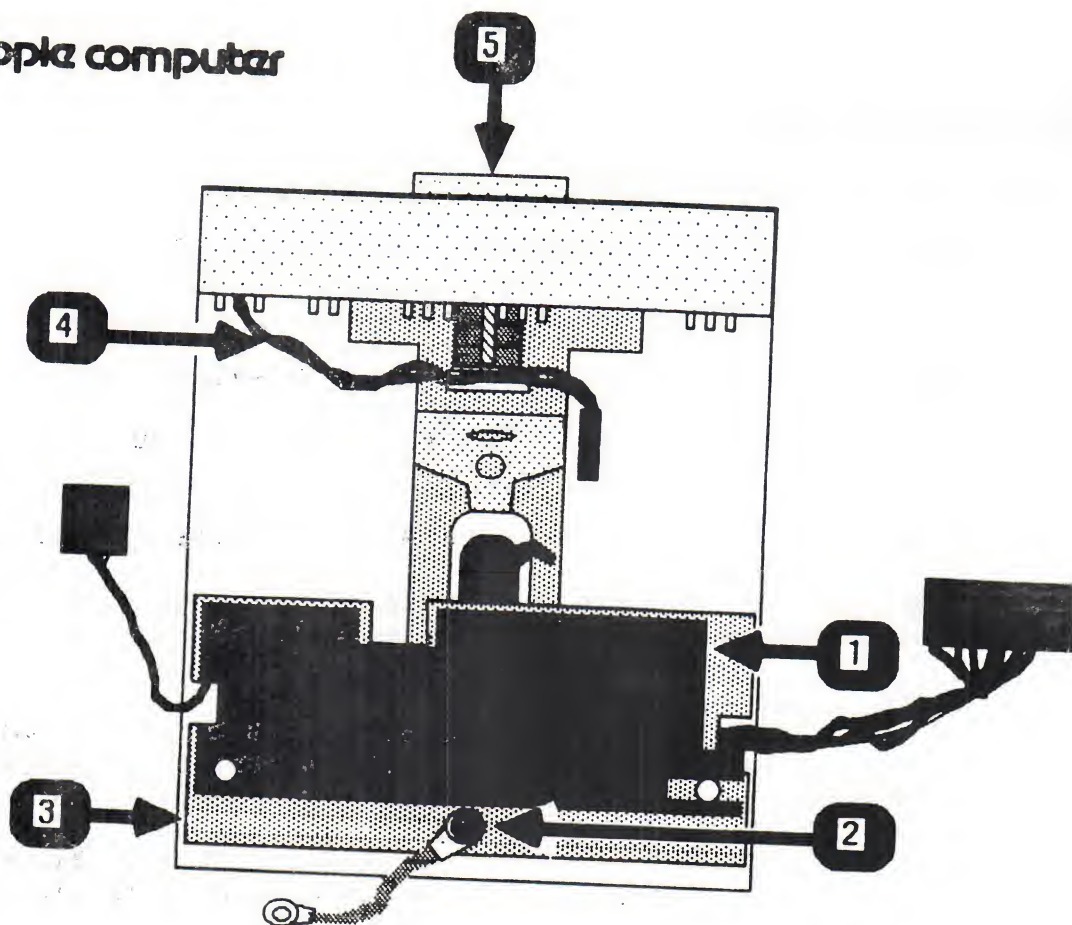
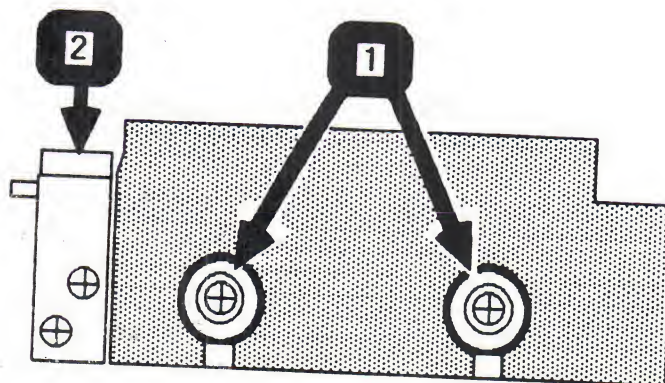

FIGURE 8
FIGURE 9
4. Remove the the black insulation paper (Figure 8, #1).
5. Remove the Phillips screw (Figure 8, #2) which secures the ground strap to the chassis. Set the ground strap aside.
6. Lift the off metal shield (Figure 8, #3) and set it aside.
7. Grasp the LED wires (Figure 8, #4) as close to the front bezel as possible and pull the LED lamp out of the front bezel.
9. Orient the drive as it is shown in Figure 9. Remove the two Phillips screws (Figure 9, #1) on each side of the drive.
10. Lift up on the sub-bezel (Figure 9, #2) and carefully slide the mechanical assembly out of its metal enclosure.
2. Replace the Phillips screws (Figure 9, #1) on both sides of the drive to secure the mechanical assembly inside the metal enclosure.
3. Replace the metal shield (Figure 8, #3), routing the cables through the cutouts at the sides of the shield. (See Figure 8.)
4. Place the black insulation paper (Figure 8, #1) on the metal shield as shown in Figure 9.
5. Replace the silver Phillips screw (Figure 8, #2) to secure one end of the ground strap to the chassis.
7. Close the door (Figure 8, #5) of the mechanical assembly.